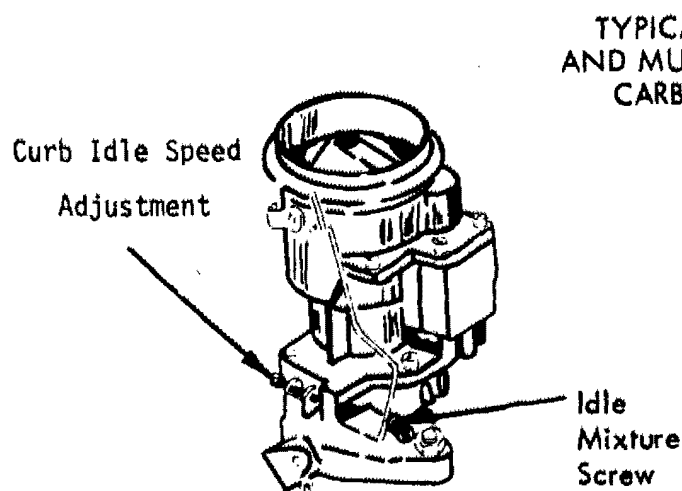

FIGURE 40
3. IDLE MIXTURE ADJUSTMENT. It is advisable whenever possible to use the mixture adjustment procedure as outlined in the manufacturer's service manual. The following procedure should work well, however, on those vehicles without emission control systems. Turn the idle mixture screw in (lean) until the idle RPM starts to decrease and the engine begins to idle roughly. When this point is reached slowly back the idle mixture screw out (rich) until the maximum steady RPM is obtained. When making any mixture adjustment only turn the mixture screw 1/8 of a turn at a time. Between adjustments allow about 30 seconds for the engine speed to stabilize. (Figure 40)